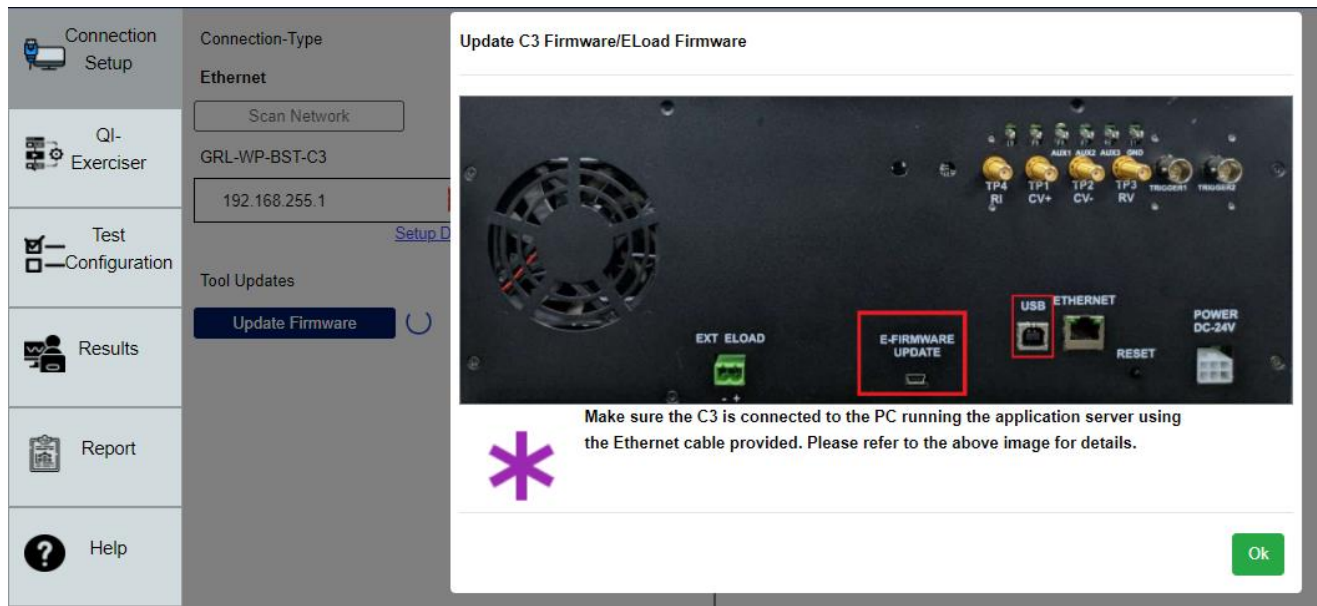

FIGURE 7.3: UPDATE GRL-C3 FIRMWARE– #1
- Click on the **Update Firmware** button and the following pop-up message will appear (Figure 7.3 below). Using a standard USB Type-B cable, connect the USB Type-B port (for firmware update as indicated in the image) at the back of the GRL-C3 tester hardware to the control PC (where the GRL-C3 Browser App is running). When connected, click “Ok” to proceed.